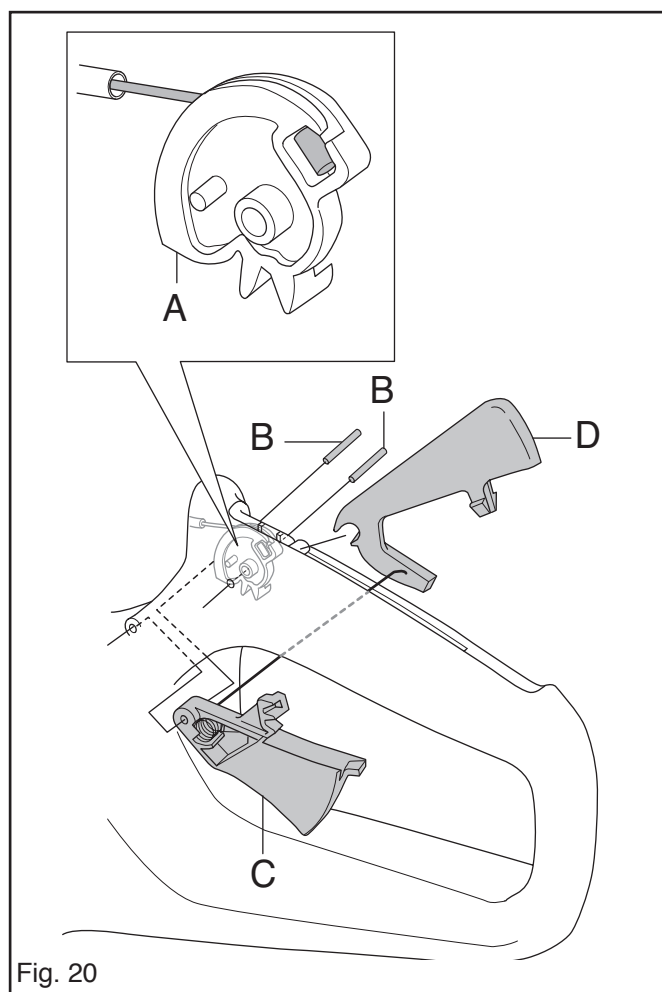

Fig. 20
2. Fit the throttle cable and lever (A). Fit the throttle lever (C) with pivot (B). See fig. 20.
3. Fit the spring in the recess in the throttle lock (D). Hold the spring in place and locate the throttle lock in the recess in the hand grip.
4. Fit the throttle lock pivot (B) with the help of a driver. See fig. 20.